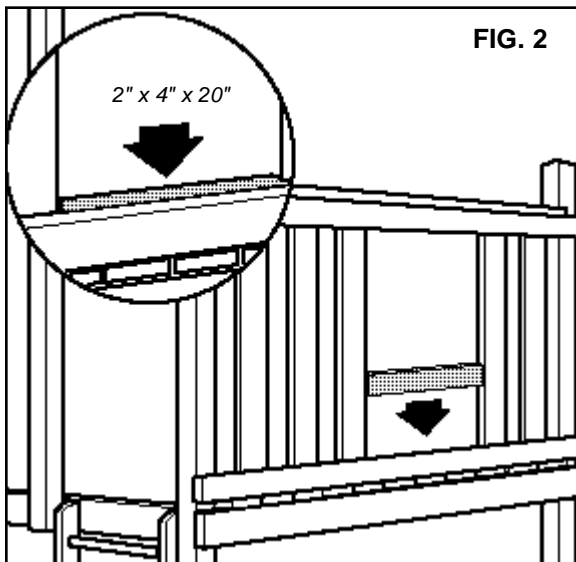

FIG. 2
3. Position the 2" x 4" x 20" piece of lumber inside the opening of your climbing unit as shown in Fig 2. Secure the board to the rail support using three evenly spaced 2-1/2" screws. **Note: Screws are included.**